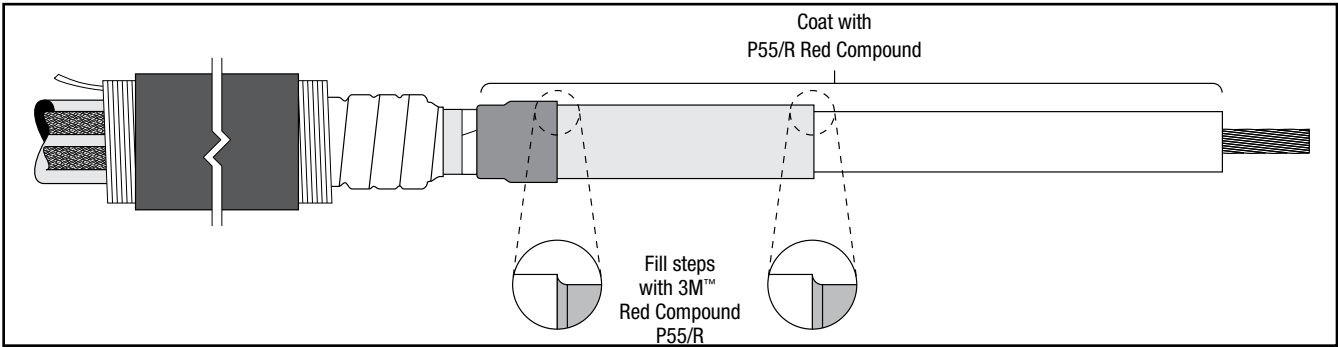

Figure 14
4.5 Apply 2 tubes 3M™ Red Compound P55/R to the exposed insulation and stress control adapter. Fill the top edges of the stress control tube with the P55/R. (Figure 14)